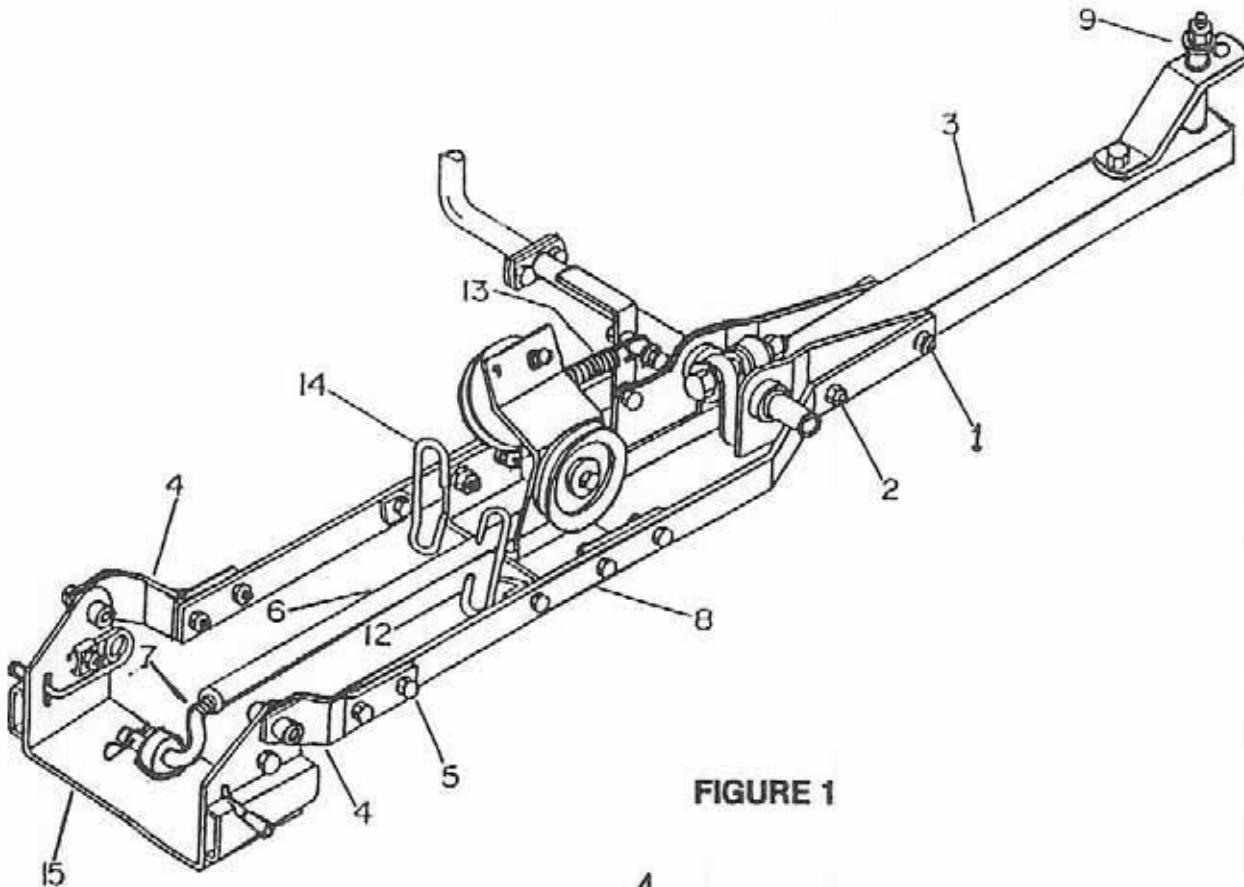

FIGURE 1
- a) Unfold the subframe by loosening the two bolts (fig. 1, item 2), place the channel (item 3) in straight position and install two 7/16 X 1 1/4" bolts (item 1), locks and nuts. Do not tighten yet. Extend the front portion (item 4) by loosening the bolts (item 5) and insert two bolts 3/8 X 1" with nuts. Secure the four bolts loosely. Adjust the overall length of push arm on garden tractor to 32 3/16", and on the lawn tractor to 32" by screwing the adjusting rod (item 7). Place the adjusting rod on the support pivot hitch hole (item 15) and secure with 3mm hair pin.
IMPORTANT: Place the subframe on a flat surface to be sure the channel (fig. 1, item 3) and the under portion of the front attaching bracket (item 4) are in line with the flat bars. Tighten all bolts securely.